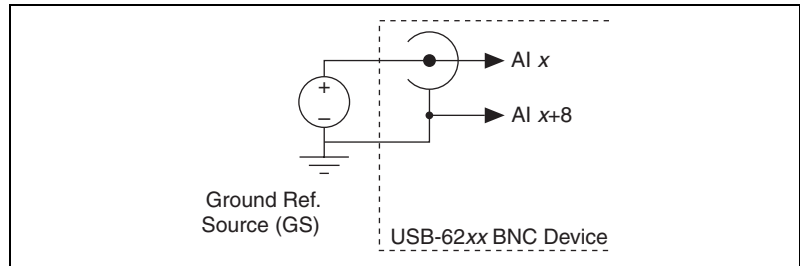

Figure A-33. Single-Ended Channels
- Single-Ended Mode**—For each BNC connector that you use for two single-ended channels, set the source type switch to the GS position. This setting disconnects the built-in ground reference resistor from the negative terminal of the BNC connector, allowing the connector to be used as a single-ended channel, as shown in Figure A-33.